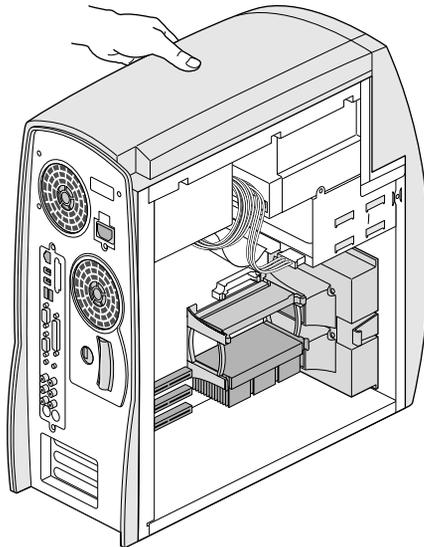

Figure 3-3 Stabilizing the System with Your Hand
6. Place one hand on top of the workstation to stabilize it while you install the DIMMs, as shown in Figure 3-3.